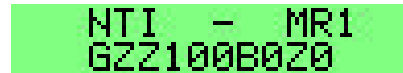

Fig 3 Power-up screen
- The start-up screen appears shortly after showing the serial number of your Minirator MR1, see Fig 3.